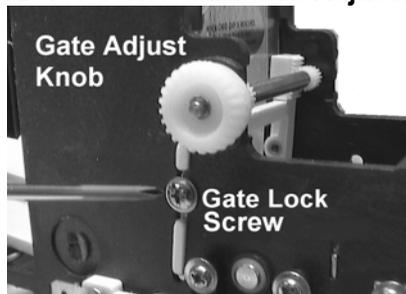

Figure 5
1. Loosen Gate Lock Screw (see Figure 5)